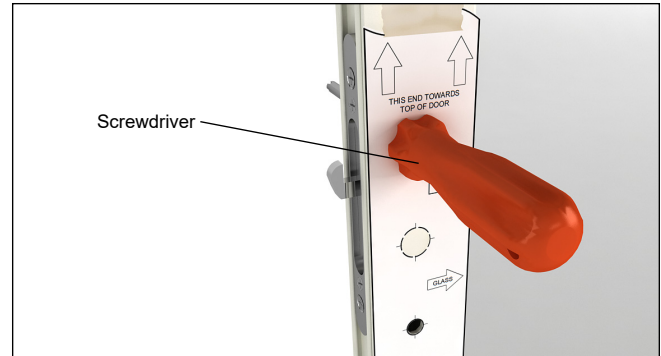

Figure 3
4. In order to prevent the backer from falling to the bottom of the panel, place a flat screwdriver in the top handle set hole of the panel. This screwdriver will remain in place until the lock box is fastened back into place. See figure 3.